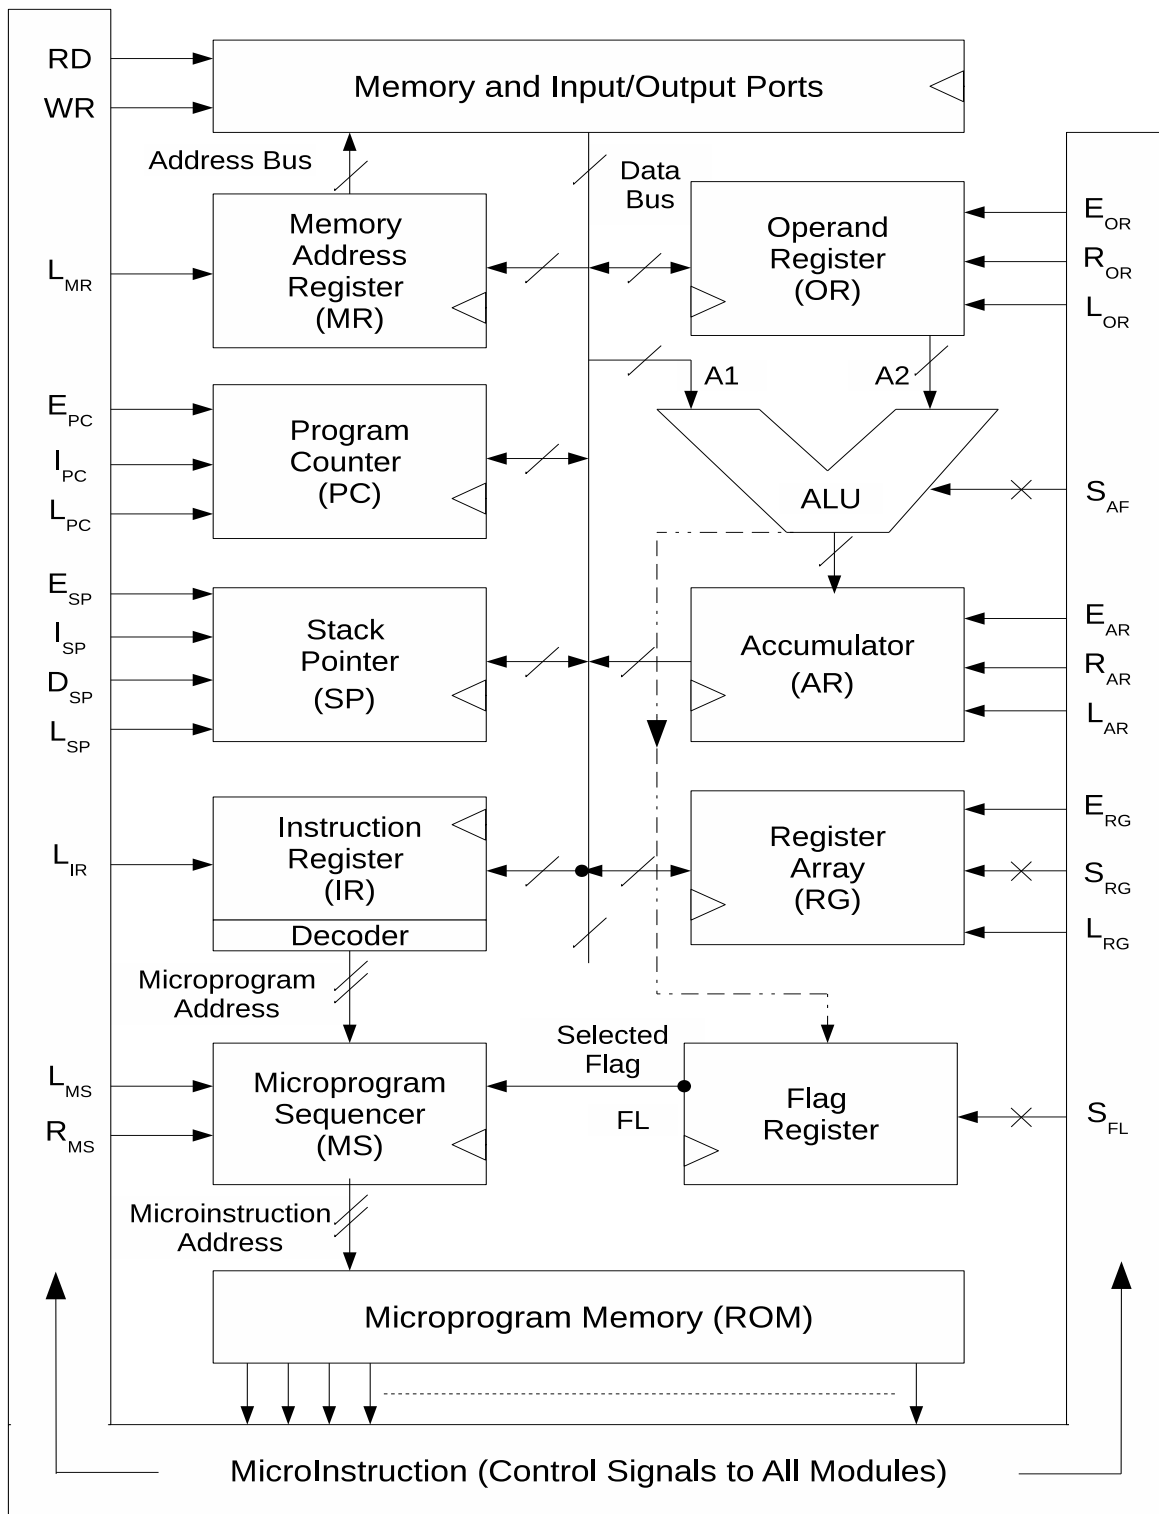

Figure 6.1: The complete architecture of the simple, singlebus processor
It is now time to reveal the overall architecture of our simple processor. Figure 6.1 gives the internal architecture of the entire processor. The instruction register is shown there. There are a number of new components like the flag register, the microprogram sequencer, etc. The box on the periphery is the collection all control signals. We can treat the collection as a *microinstruction word*. Such words are stored in the *microprogram memory*, which is implemented using a ROM. The address to this ROM is supplied by the *microprogram sequencer* in each clock cycle. The microprogram sequencer generates the address based on the instruction in the instruction register as well as the status of the flags. The purpose of these components will be explained in the rest of this chapter.
The stack is an important component of the program execution aspect of the processor. The stack is stored in the memory so that its capacity can be reasonably large. However, a special register called the *stack pointer (SP)* resides inside the processor, which holds the address of the next empty location in the stack. Figure 6.1 shows the stack pointer among the registers of the processor. Traditionally, SP values grow downwards. That is, SP is decremented by 1 when a value is pushed onto it and it is incremented by 1 when something is popped out of it. Thus, SP is initialized to the highest address that belongs to the stack when it is empty. The stack managed by SP is usually called the *system stack* and plays a critical role in the program flow
Figure 6.1 shows a thin line connecting the ALU to the flag register to indicate their link. The flag values are loaded from the ALU to the register only for valid operations. For instance, all arithmetic and logic instructions affect the value of **Z** and **P** flags. However, only arithmetic instructions affect the values of **S** and **C**. Instructions that do not use the ALU – such as the data movement instructions, branching instructions, and the like – do not change the flag values. As we will see soon, the conditional branching instructions can use one of the flag values to decide if the branch should be taken or not. The select lines **S_{FL}** choose the appropriate flag.
In this chapter, we will complete the story of our simple processor, whose architecture is given in Figure 6.1 and whose complete instruction set is described in Table 7.1. It is clear that the main task is to generate the combination of control signals for each clock cycle for each instruction as given in the table. We can think of the control signals being generated using a combinational circuit, whose input is the opcode of the current instruction and the clock cycle number. The opcode is loaded into the IR register by the fetch process. The clock is available to the microprogram sequencer, which can count them starting with a 1 for the fetch.